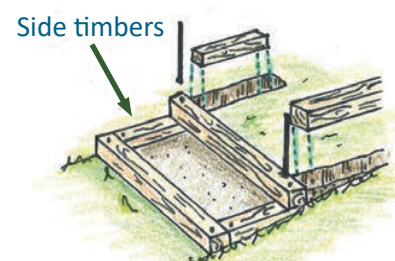

Figure 5
Timbers: If you are using side timbers (see Figure 5, page 27), add the length of each side timber (the tread depth) to the step width to get the total length of timber you'll need per step. As a guide, use the following equations to estimate the length (in feet) of timber material you will need:
STEP 8 – Build second step. To build the next step, measure from the front of the first riser timber and mark the tread depth on the side timbers with a pencil. Align the front of the second step riser timber with the pencil lines on the side timbers of the step below. Secure the riser timber to the side timbers using 12-inch galvanized spikes (Figure 5). To make it easier to drive the galvanized spikes into the timber, you can pre-drill holes to about five inches deep.
STEP 9 – Excavate side timbers. Set and anchor side timbers by driving the steel rebar through the drilled holes on the end of each timber into the ground (Figure 5).